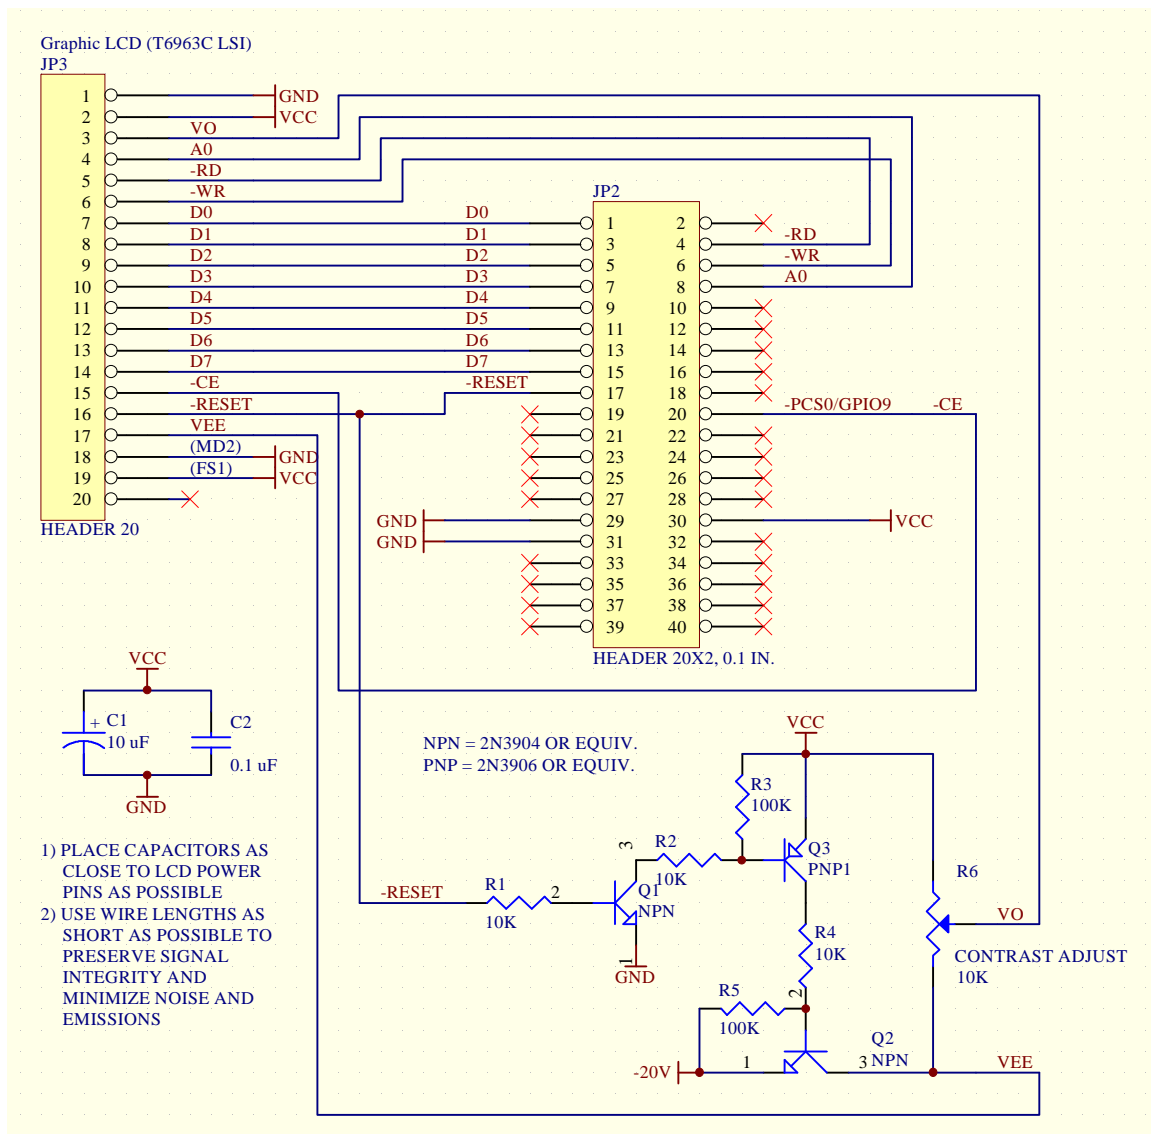
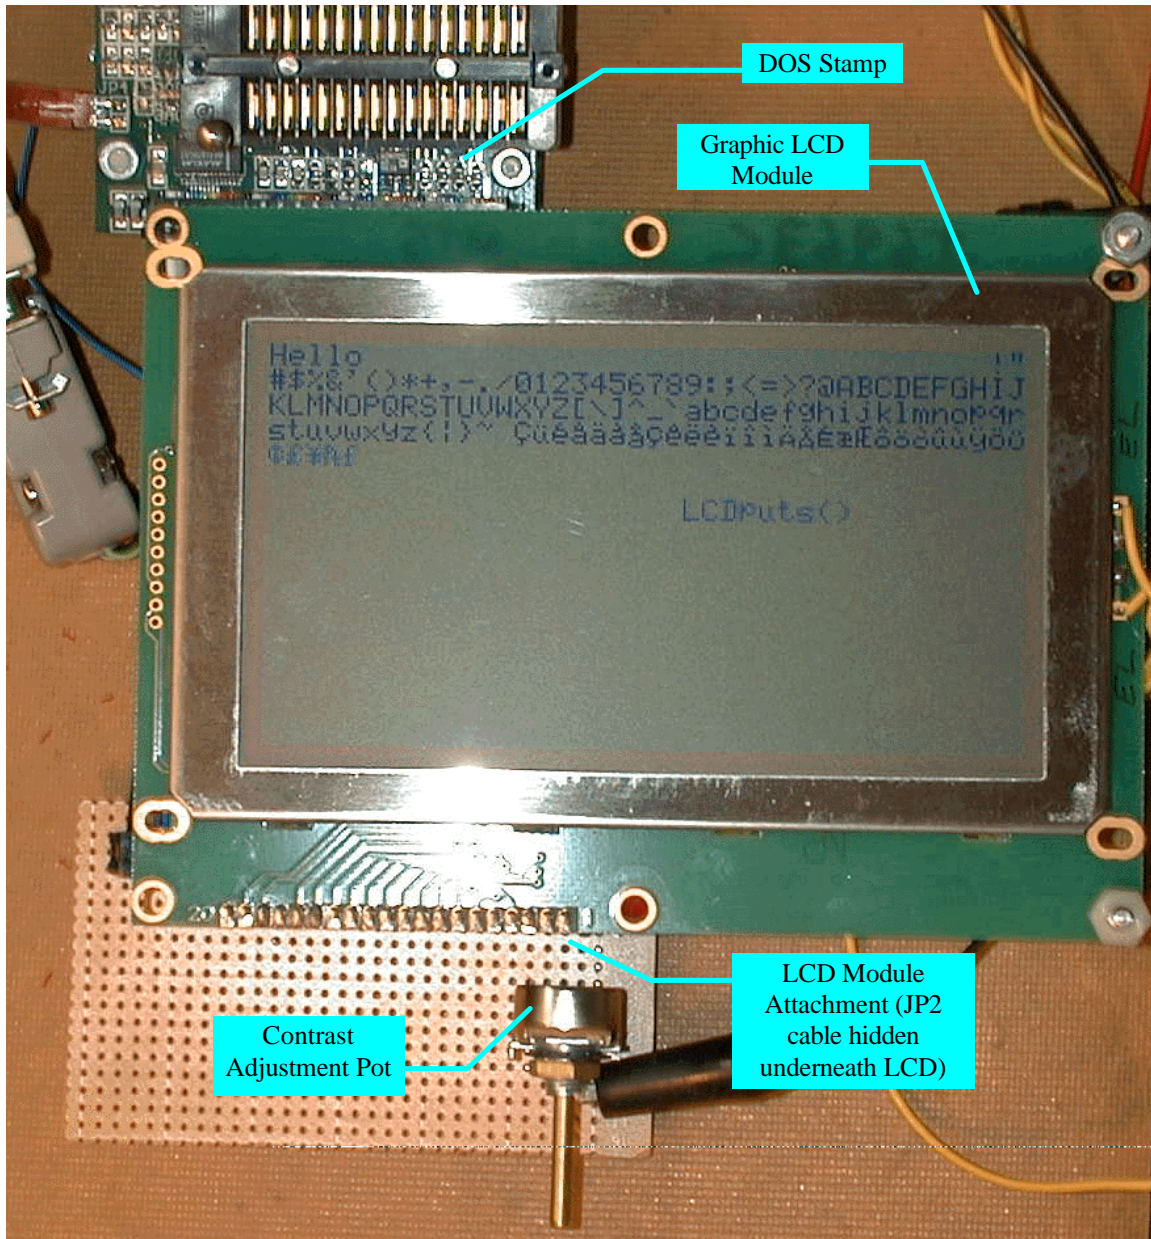

Figure 1
Figure 2
- Various electronic parts as shown in Figure 1
The schematic is shown in Figure 1. A photo of the experimental setup is shown in Figure 2.